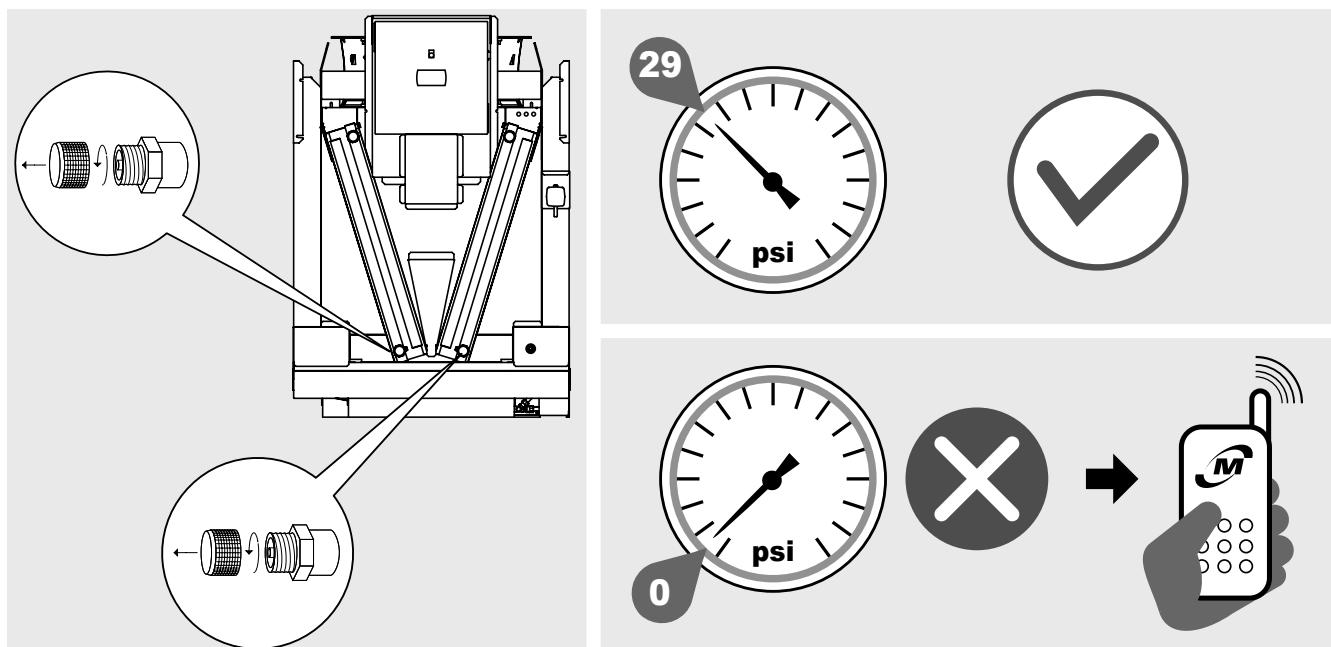

Figure 4
- 4.2 The heat exchangers of the condensers (AVK) and the gas coolers (AVS) are supplied with a pre-charge of dry air at 29 psi (2 bar) and have load couplings of 1/4" SAE. Check for the presence of pressure. In the absence of pressure immediately contact Modine and report the problem on the transport document. Insufficient pressure indicates a loss due to damage incurred during transportation. See Figure 4.